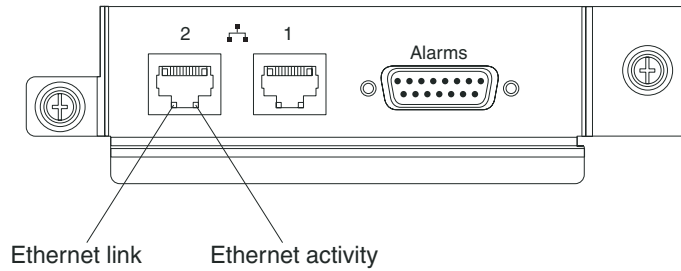

Figure 25. Ethernet LEDs
2. Check the Ethernet LEDs to make sure that the network connection is working. Figure 25 on page 48 shows the location of the Ethernet LEDs on the LAN module.